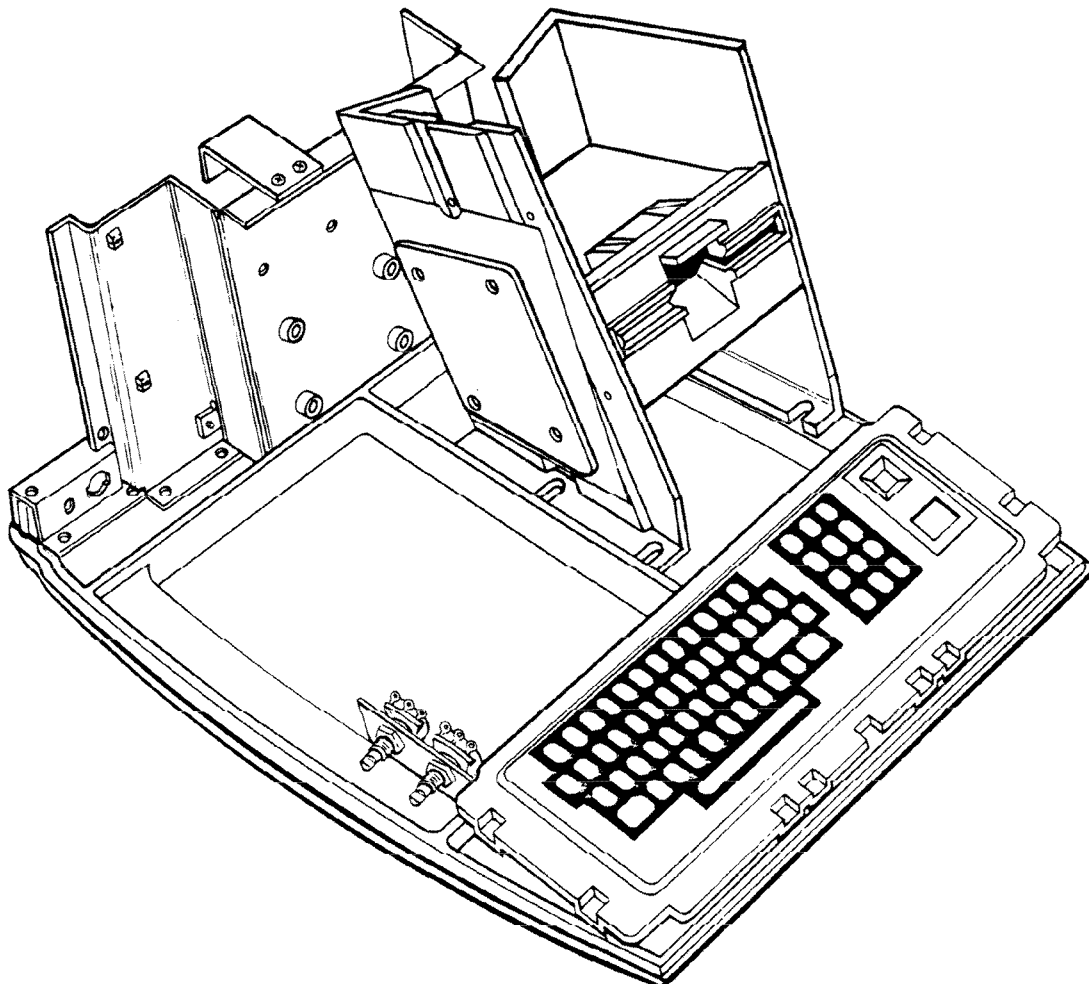

FIGURE 5. DISK DRIVE Ø AND DISK POWER SUPPLY
16. Position the Disk Drive in the bottom position between the Mounting Brackets and fasten the Drive using four #6 x 1/2" screws and four #6 flat washers. Be careful not to tighten the screws too tight. Refer to Figure 5.
17. Position the Disk Power Supply (with power connectors SK-2, 3, and 4 positioned upward) on the left Disk Mounting Bracket. Fasten using four #6 x 1/2" screws and four #6 washers. Refer to Figure 5.